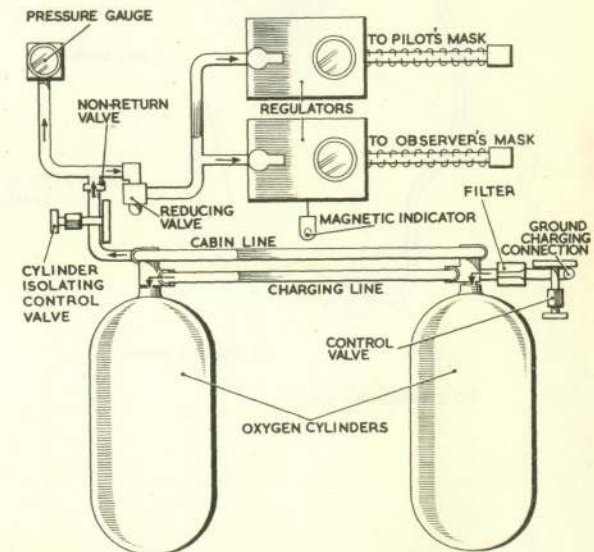
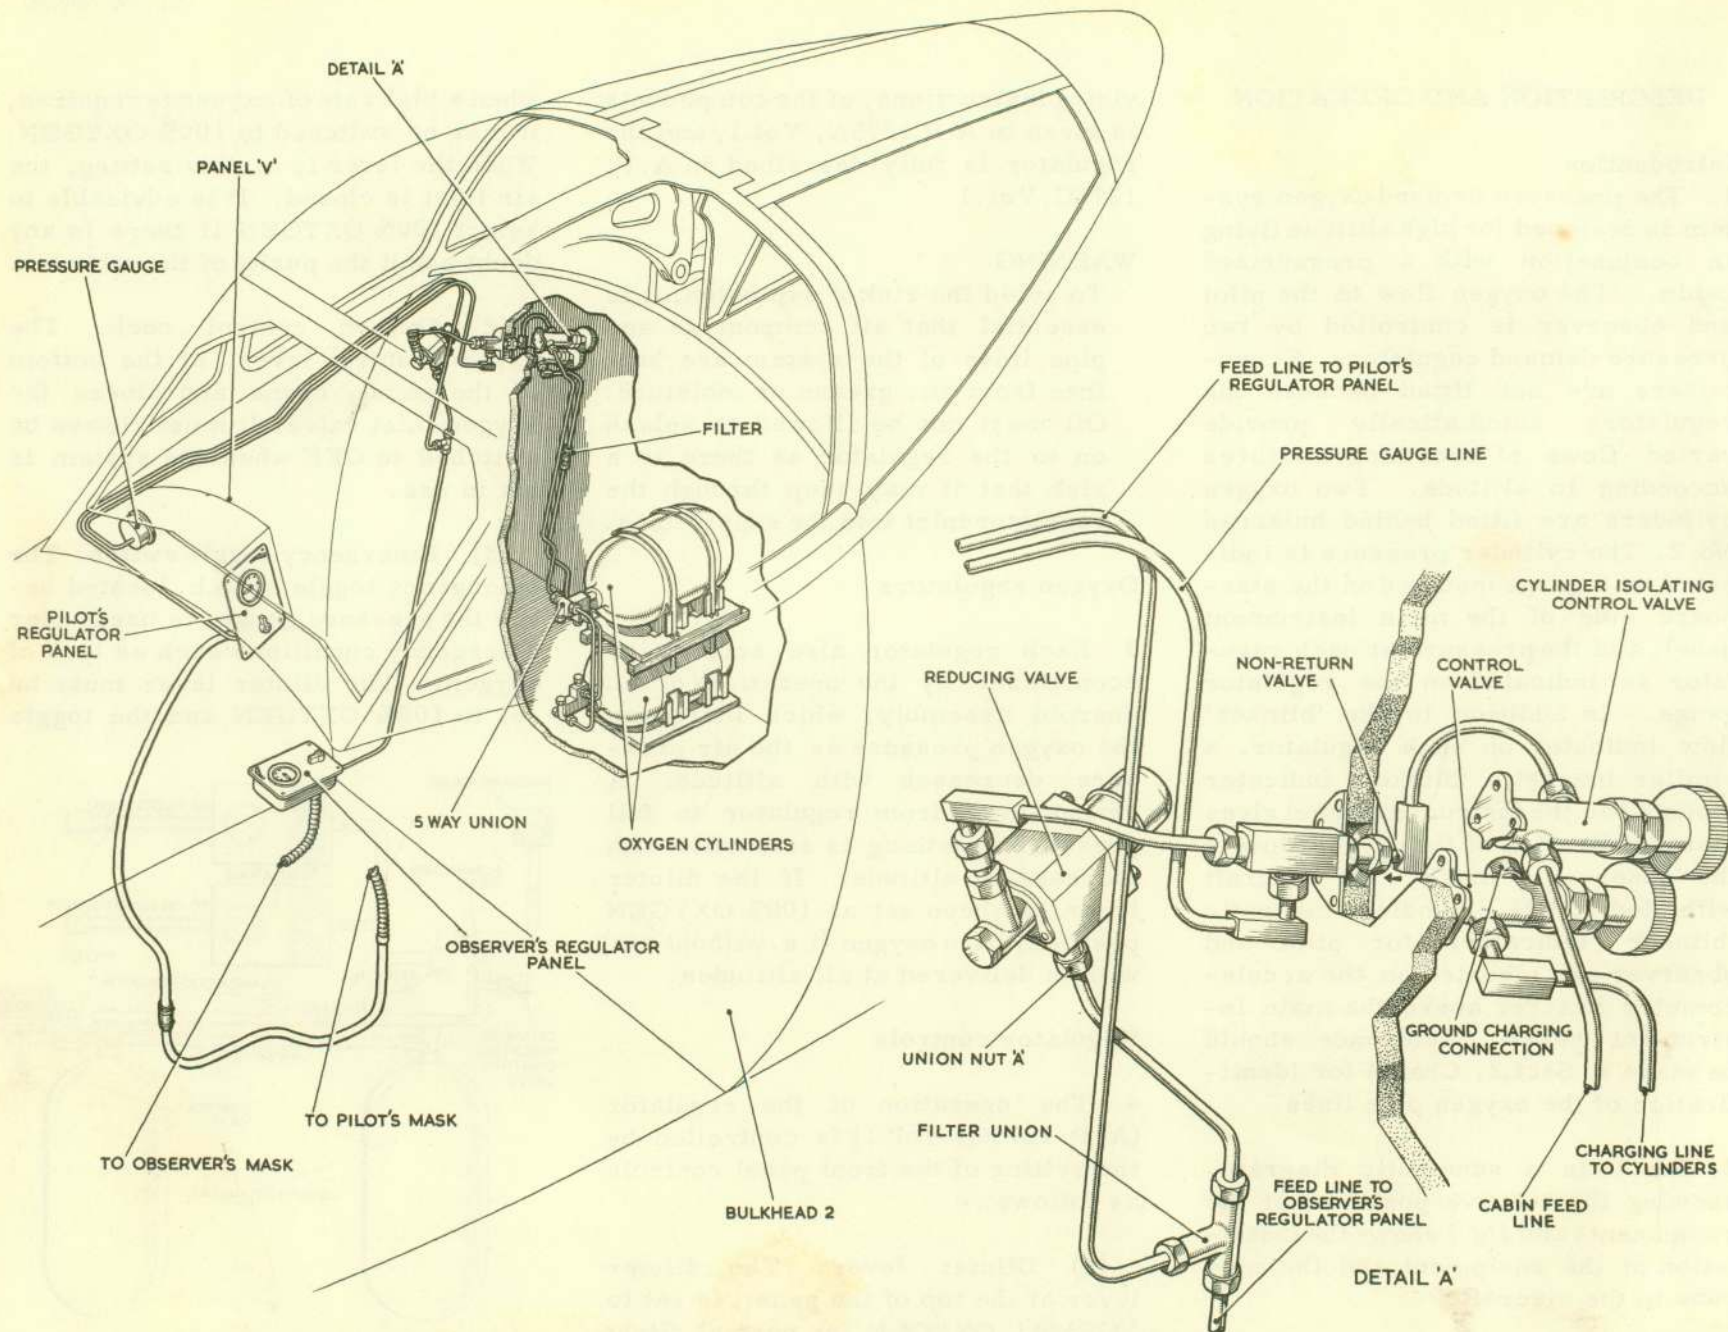

Fig 1 Oxygen system diagram
Fig.2 Installation of oxygen equipment (pre Mod.N.894)
2. Fig. 1 is a schematic diagram, showing the relative positions of the components and fig. 2 shows the installation of the equipment and the pipe runs in the aircraft.
5. The oxygen cylinders may be charged in situ from an external supply. The charging connection (fig. 2), which is integral with a control valve, is mounted on the aft face of bulkhead
(2) Unscrew the union nut 'A' (fig. 2) slowly to release the pressure.
(3) Disconnect the pipe lines from the five-way union on the upper cylinder.
(4) Release the securing straps and remove the top cylinder.
(5) Remove the upper cylinder bearers and withdraw the lower cylinder complete with pipes.